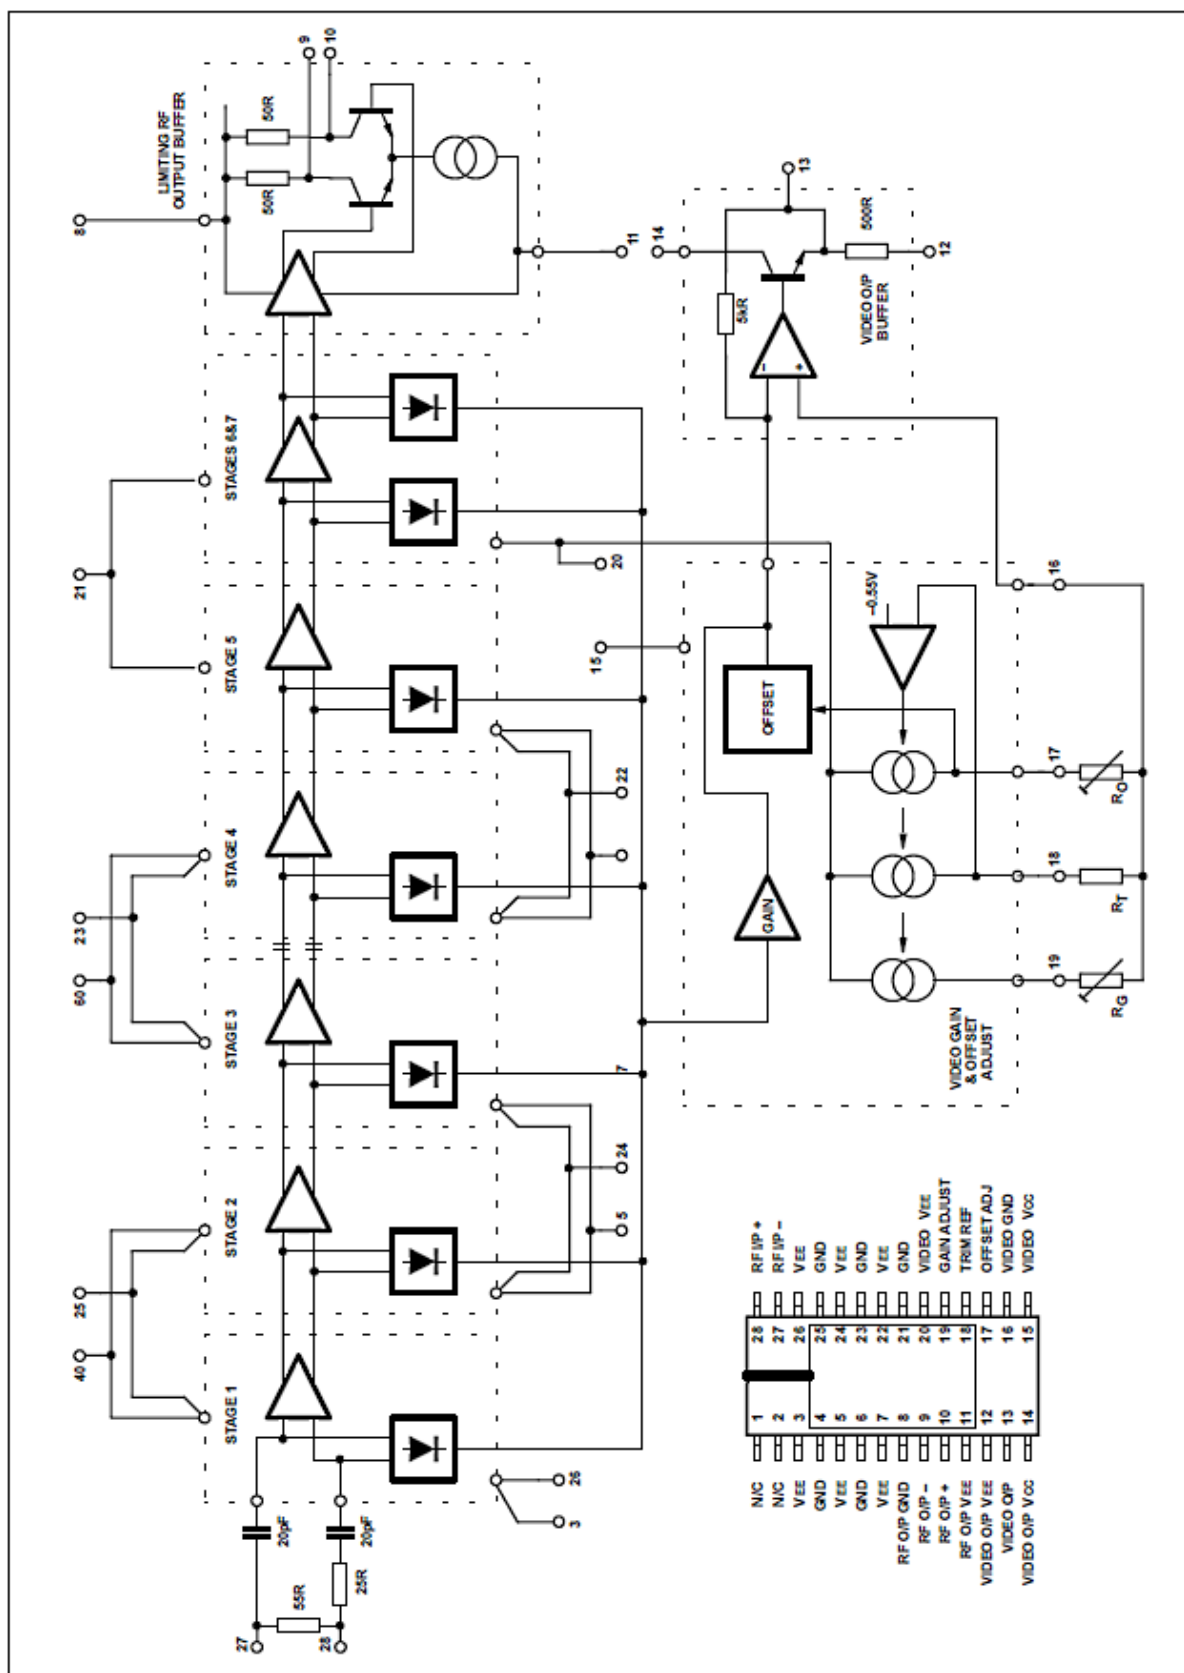

Fig. 24 PS13201 Schematic Diagram
2. There are 2 RF coupling capacitors (20pF) on-chip, which couple the output signal from stage 3 to the input of stage 4 (ref Fig. 24). These can introduce undesirable limiting phase performance for input signal frequencies below 100MHz.